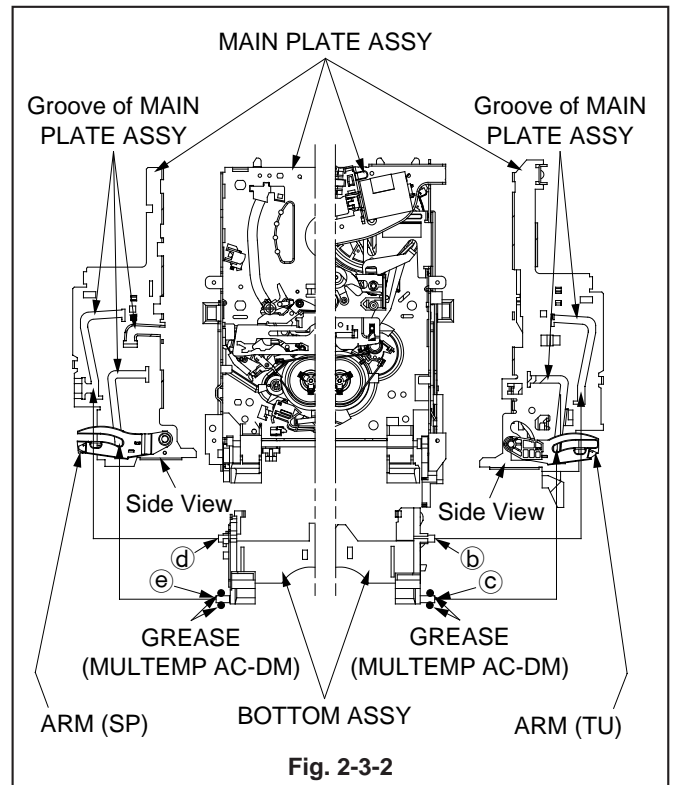

Fig. 2-3-2
1. Apply grease (MULTEMP AC-DM)[859D055O90] to the grooves of the MAIN PLATE ASSY shown in Fig. 2-3-2.
2. Apply grease (MULTEMP AC-DM)[859D055O90] to the bosses of the BOTTOM ASSY shown in Fig. 2-3-2.
4. Insert the boss (b) of the BOTTOM ASSY shown in Fig. 2-3-2 in the upper groove of the MAIN PLATE and the boss (c) in the lower groove.